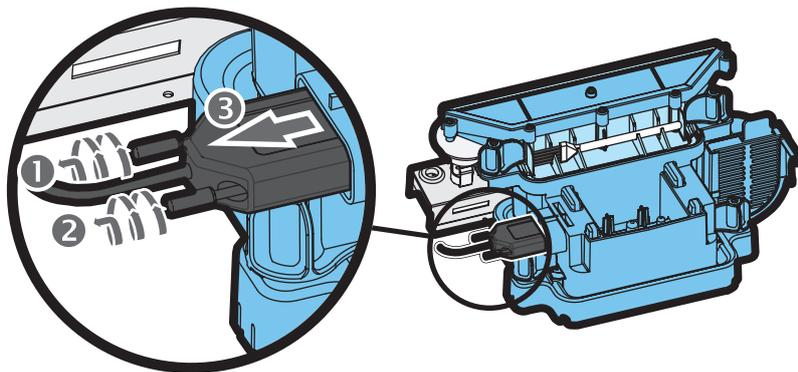

Fig.8
4. Disconnect the electrical connector, located on the left side of the sump, by first loosening the two retaining screws and gently withdrawing the connector. (See Fig.8)